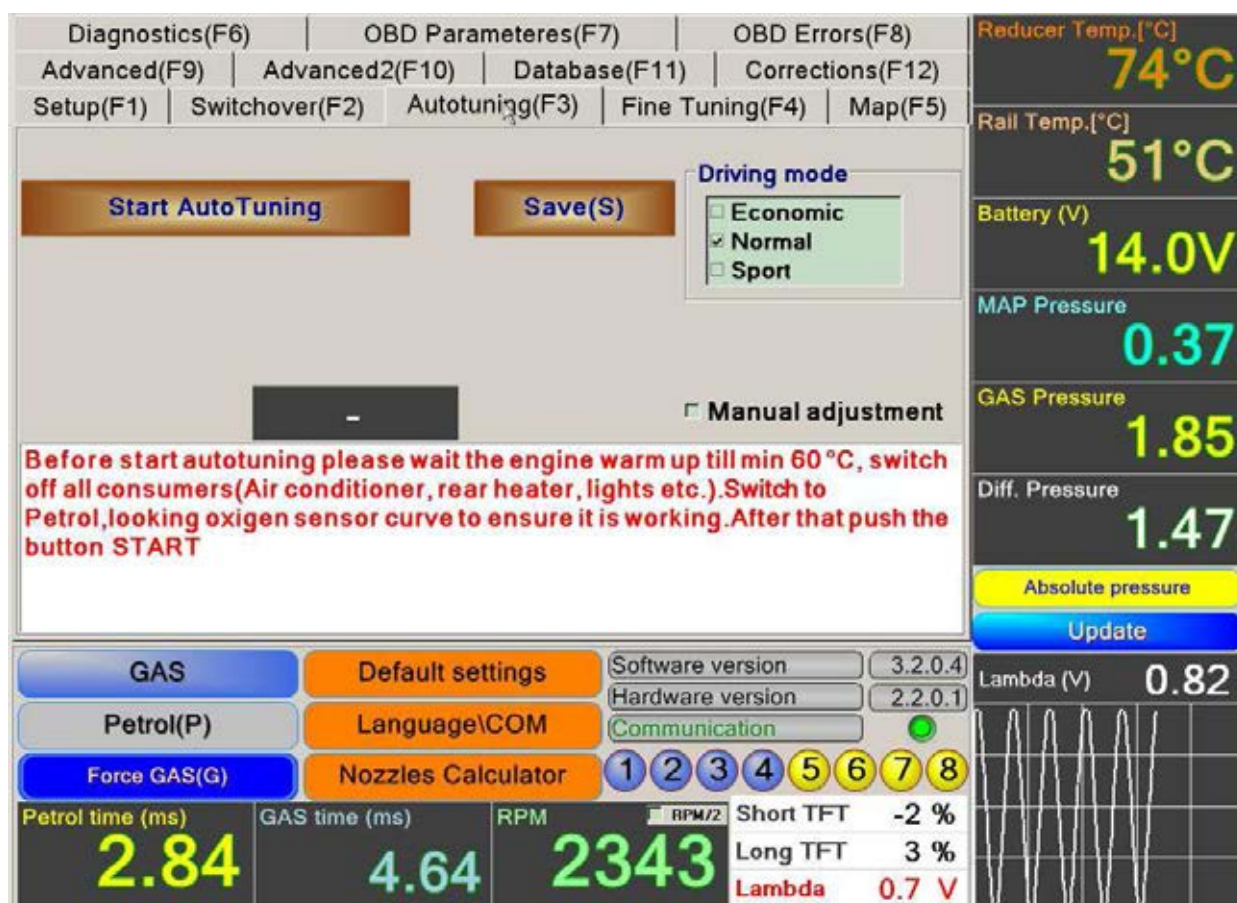

FIG.5
9. Menu “Autotuning” (F3) FIG.5
If the engine is working well you can go to “Autotuning mode” (FIG.5). It has to be done when all the power consumers are switched off (A/C, window, seat and mirror heaters, lights, cooling fan of the radiator). The engine must reach minimum 60°C and you have to sure by the lambda sensor data that the petrol ECU regulates. Than the AUTOTUNING procedure can start by pressing the button. Follow the instructions in a few steps that will appear in red colour in the field.
Until now all the operations are executed in "Petrol" mode. When the temperature is minimum 20°C you can switch over in "LPG" mode looking for the differential pressure to be near to 1.5bar. When you have normal RPM in idle, pressure, working engine with increased temperatures over 70°C on the reducer and at least 50°C on LPG rail, you can go to auto tuning mode. Anyway, from the menu "DIAGNOSTICS" (FIG.5) you can switch each cylinder separately on LPG, looking for normal engine behavior in this case you can catch eventually not working LPG injector or improper sequence which could be easy normalized by using the injector terminals.
When the engine is "full group" or "Semi sequential" you must click also on the check box "Full group". By that the LPG injectors will inject fuel 2 times less (over tact). In this case you have use bigger size calibrated nozzles than standard for the pressure and the engine power. (Fig.5)